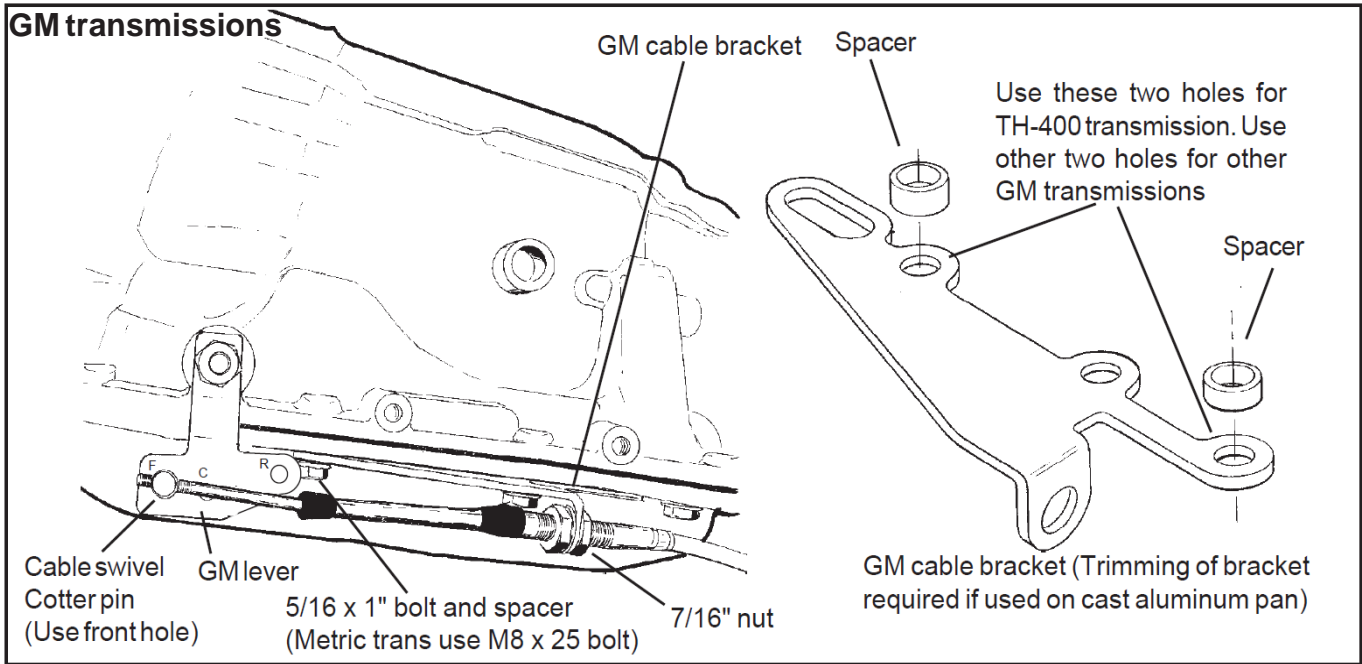

Figure 5
**STEP 10.** If you have not already done so, remove the stock selector lever nut and the selector lever from the transmission. Discard the stock lever and the stock shifter linkage. Install the **B&M** selector lever in position using the stock selector lever nut (**See Figure 5**). Torque the nut to 23 lb. ft. The lever should move smoothly from front to rear with a positive click in each gear position.
**STEP 11.** Remove two transmission oil pan bolts from the middle of the left side of the oil pan. Install the cable bracket in position (**See Figure 5**). The bracket must be installed with two spacers between the pan and the bracket. (If your transmission is